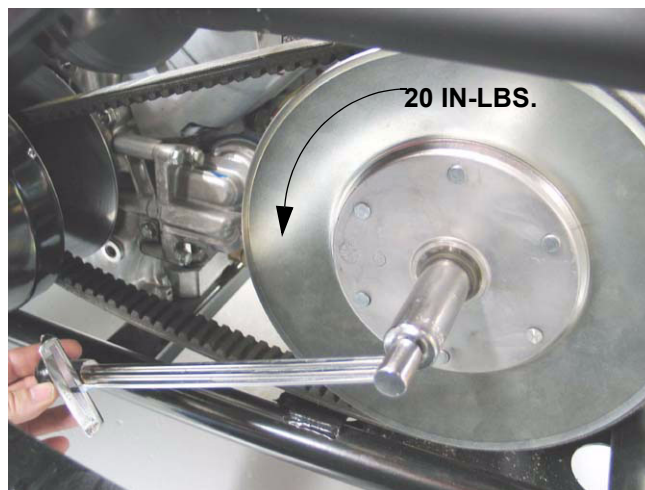

Figure 4.3
- 4.3. With the transaxle in neutral, it should be possible to rotate the driven pulley (on the transaxle) without applying a force of more than 20 inch-lbs. to the driving pulley (on the engine). The belt should slip easily on the driving pulley. See Figure 4.3.